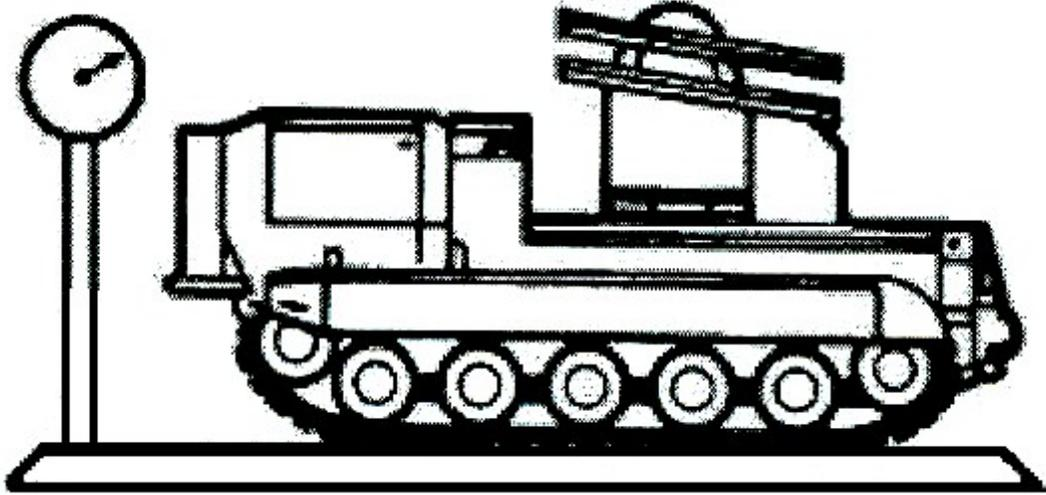

Figure 3-11
- a. Order driver to drive vehicle onto a platform scale large enough to accommodate the entire vehicle (see Figure 3-11).